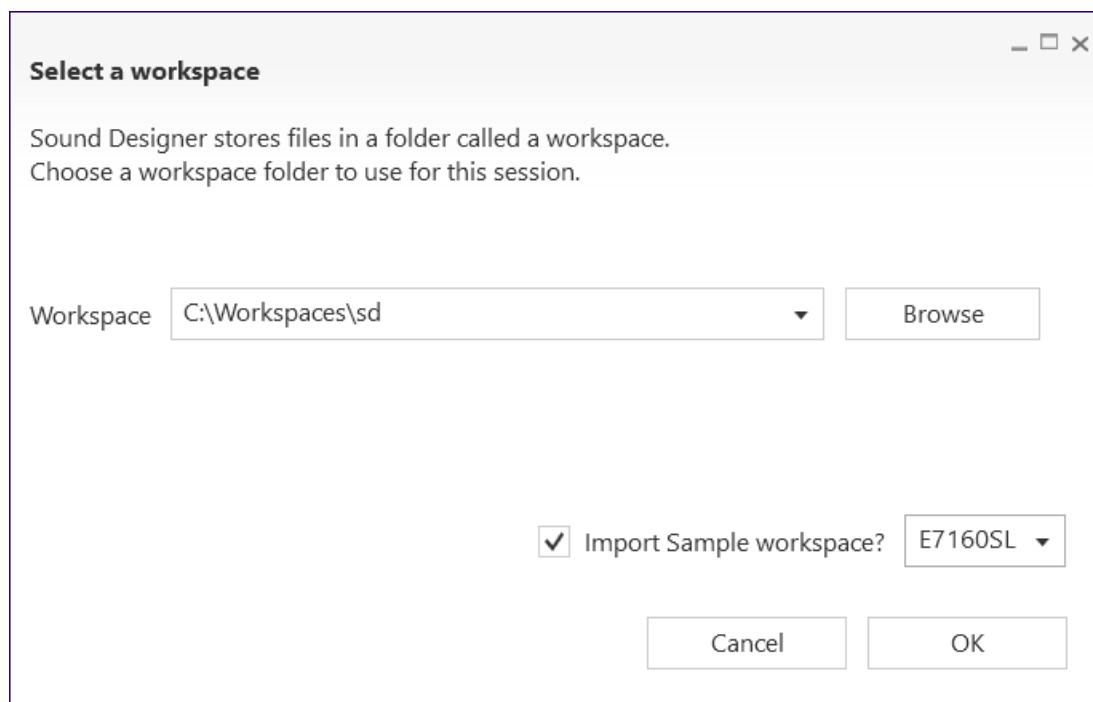

Figure 6. Selecting a Workspace
3. When the **Select a Workspace** dialog box appears, you need to choose a workspace to for Sound Designer Software. For new installations, we highly recommend selecting an empty directory for the workspace. Errors might occur if opening a workspace created using an earlier version of the Sound Designer Software Application. To create a workspace, click **Browse** and the software allows you to create one. If you click **Browse** and select a pre-existing directory for your workspace, make sure it is empty. To begin working with the Ezairo 7160 SL, check **Import Sample Workspace**, and select **E7160SL** from the drop-down list. Click **OK**. (See the "Selecting a Workspace" figure (Figure 6).)